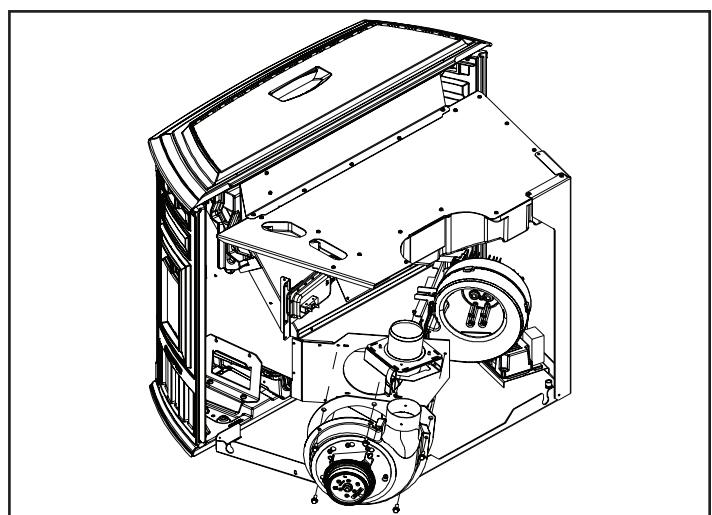

**Figure 25.2**
d. Use the crevice tool to finish cleaning the heat exchanger fins. It is critical that the 2 exhaust exits at the back of the firebox floor (left and right) be thoroughly cleaned. **Figure 25.2.** There are several ways this can be done.